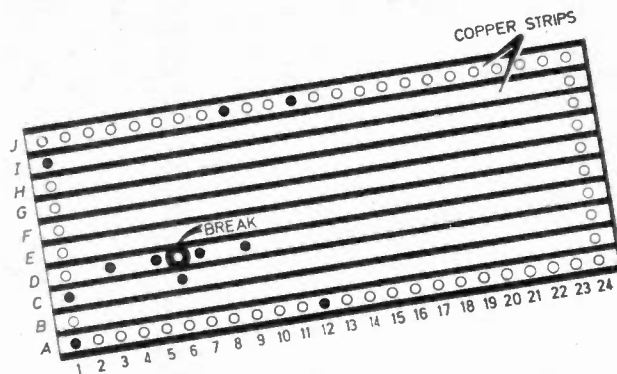

Fig.1
- 2 Before attempting to build one of these **Popular Designs**, read carefully the article and study the circuit diagram and the component layout diagram. Note the method of coding the strips (letters) and holes (numbers) of the stripboard. This helps positive identification of connection points on the board. See Fig. 1.